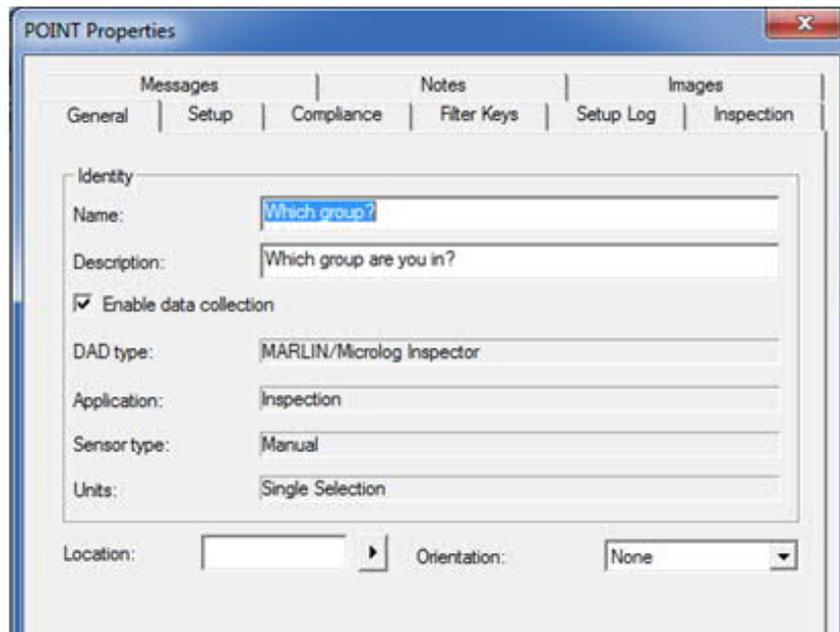

Figure 3. Creating new Conditional POINT called "Which group?"
4. Next, under Pulley 001, insert a new POINT and name it "Which group?". This will be the Conditional POINT. [Figure 3]